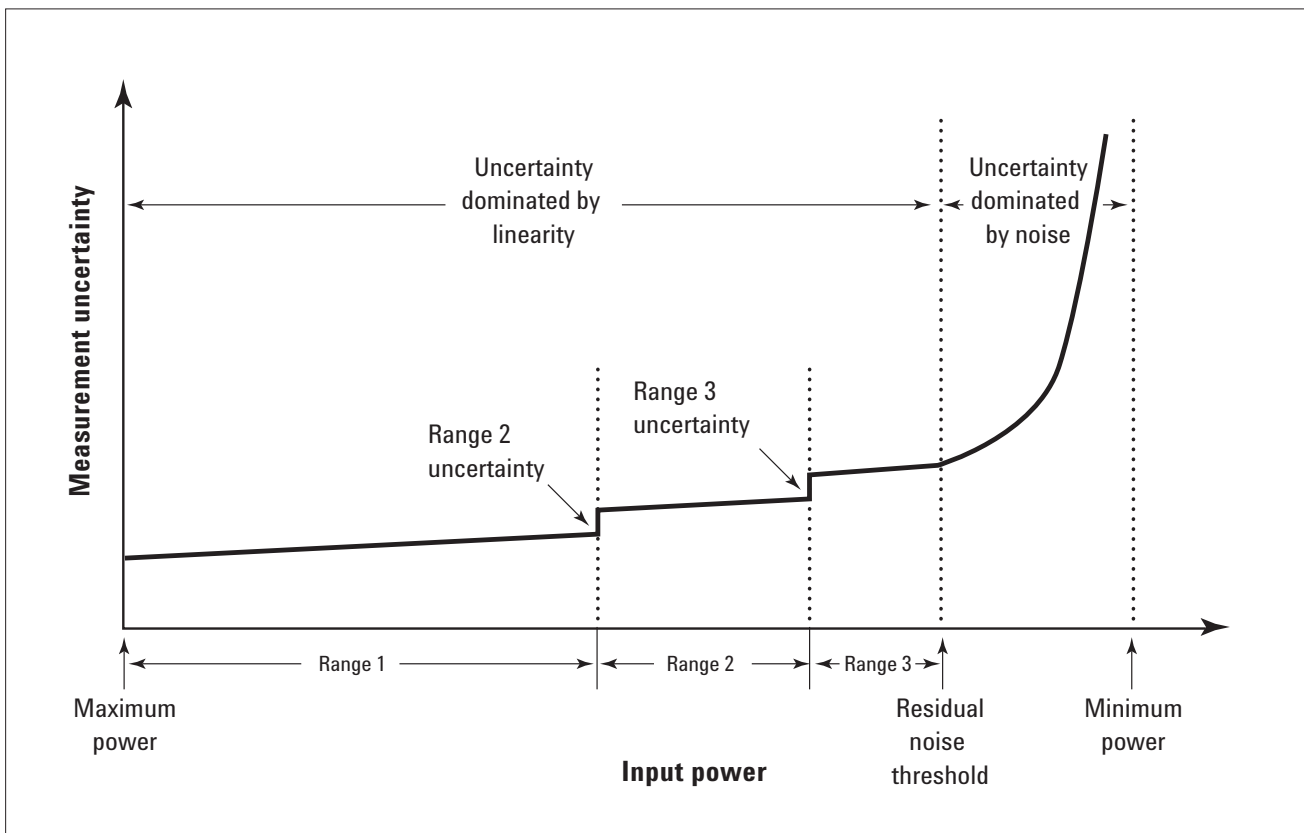

Figure 1. Measurement uncertainty vs. input power relationship
- In absolute accuracy of TRFL measurements, the cumulative error is the error incurred when stepping from a higher power level to the Residual Noise Threshold power level. See Figure 1 for a graphic. In order to calculate the cumulative error, you must determine the Residual Noise Threshold power and determine the Power Meter Range. The formula to calculate the cumulative error is: $\pm(\text{Power Meter Range Uncertainty} + 0.005 \text{ dB}/10 \text{ dB step})$. For example: the power sensor is Option 504, starting power is 0 dBm and power will be stepped to -120 dBm. Therefore starting power falls in the Power Meter Range 2-4 and the uncertainty is $\pm 0.190 \text{ dB}$, as indicated in the table on the next page. The Residual Noise Threshold Power is -106 dBm at IFBW of 10 Hz. This is calculated per the Minimum Power specification in the table on the previous page. Assume no preamp is installed, and that the measurement frequency is 10 MHz to 3 GHz. The Residual Noise Threshold Power is $-136 \text{ dBm} + 30 \text{ dB} = -106 \text{ dBm}$ using the formula on this page. The cumulative error is then $\pm(0.190 \text{ dB} + 106/10 \times 0.005 \text{ dB})$, or $\pm 0.245 \text{ dB}$, where x is a ceiling function that means the smallest integer not less than x, which is 11 in this example.